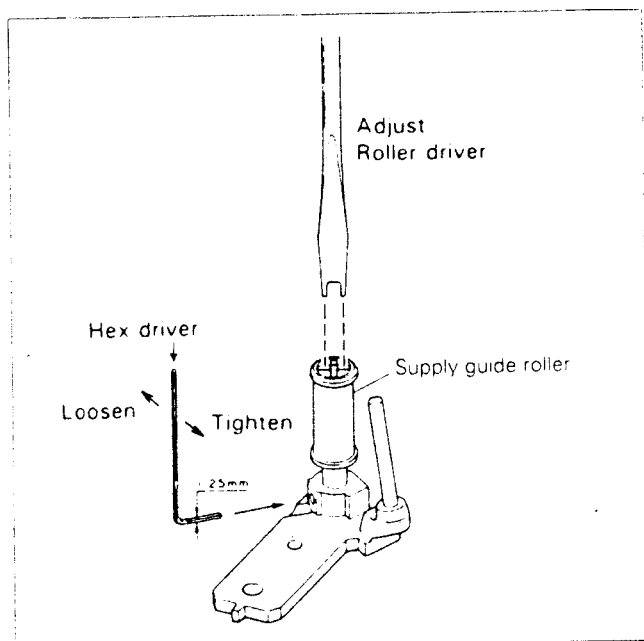
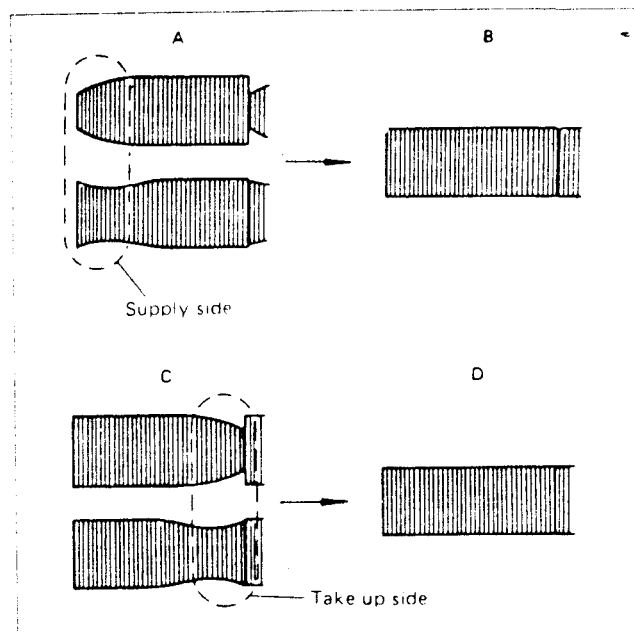

Fig. 2-5-3
Fig. 2-5-5
- 4) If adjustment is required, first slightly loosen the set screw located at the bottom of the guide rollers. Using the guide roller adjustment tool, adjust the supply and take-up guide rollers (refer to Fig. 2-5-3) to obtain the correct waveform. Refer to Fig. 2-5-5.